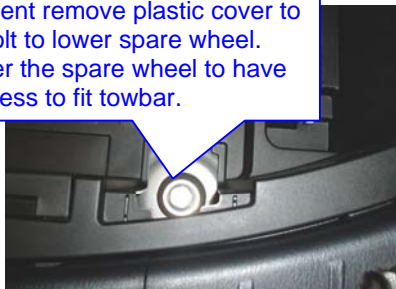

Fig 3
- Lower the spare wheel from inside the rear storage compartment using the Mazda supplied wheel brace & socket to gain better access for fitment of the towbar see fig 3.